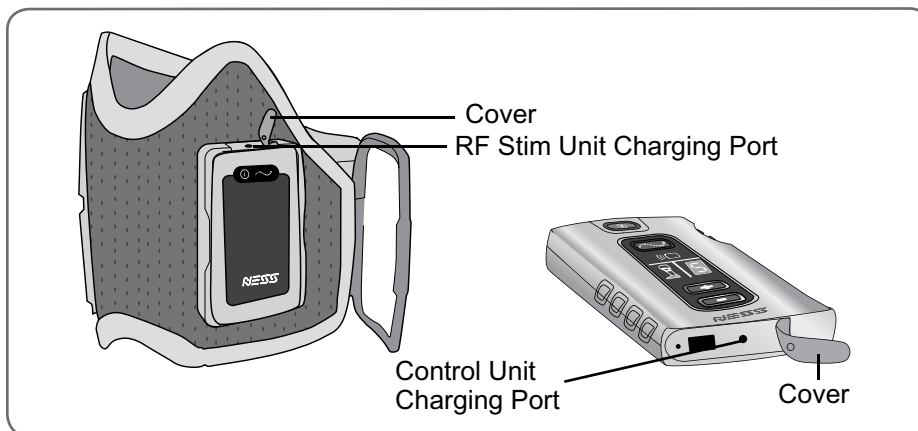

Figure 8-1: RF Stim Unit and Control Unit charging ports (L300 Regular FS Cuff shown).
2. Open the cover of the charging ports (found at the bottom of the Control Unit and at the top of the RF Stim Unit). See Figure 8-1.